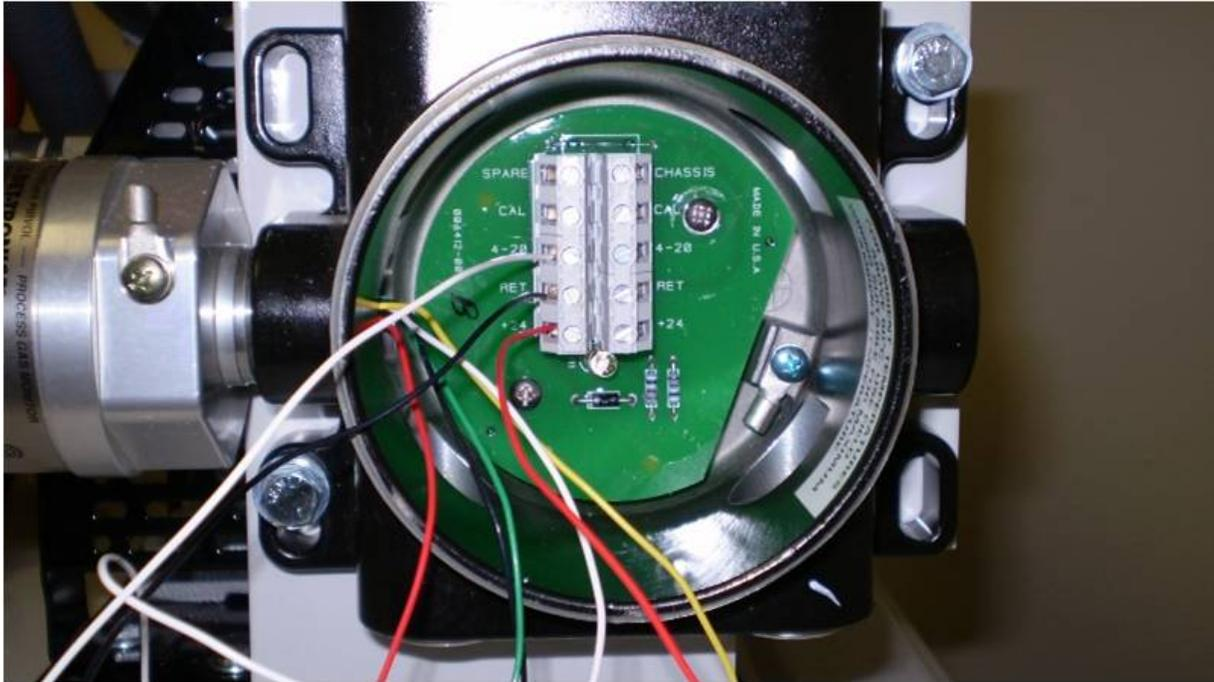

Figure 53: HC IR Sensor Electrical Housing Circuit Board
- See Figures 53 and 54.
6. Re-install the (2) ¼" 45° flare tubing on the top and bottom sides of the HC IR sensor module.